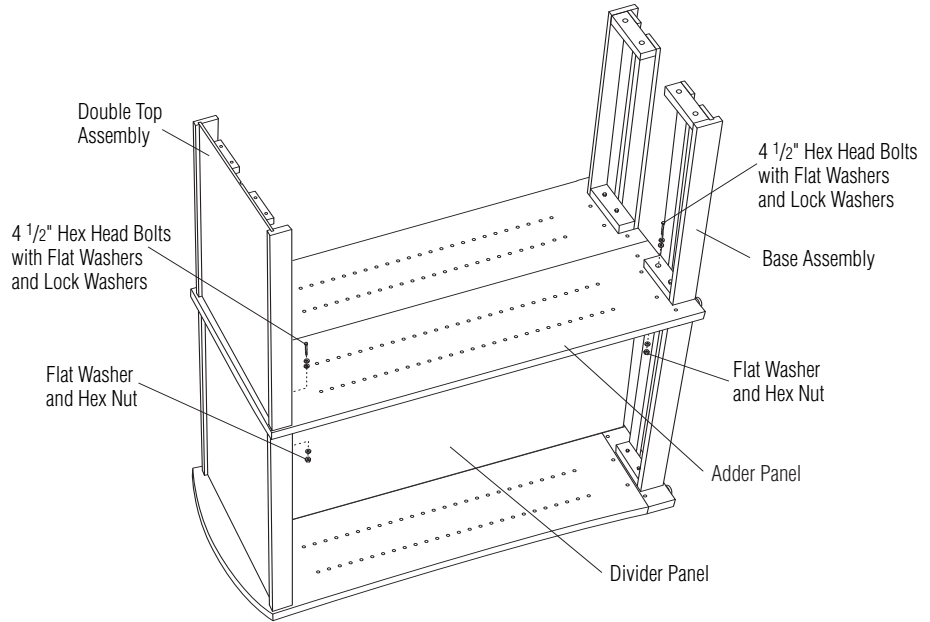

Figure 5
- Position adder panel (has holes on both sides) by aligning the upper holes with the holes in the previously installed top assembly (Figure 5). Check that the divider panel is still positioned in the center groove. Position the top assembly for the adder unit by aligning the holes with the holes in the adder panel.